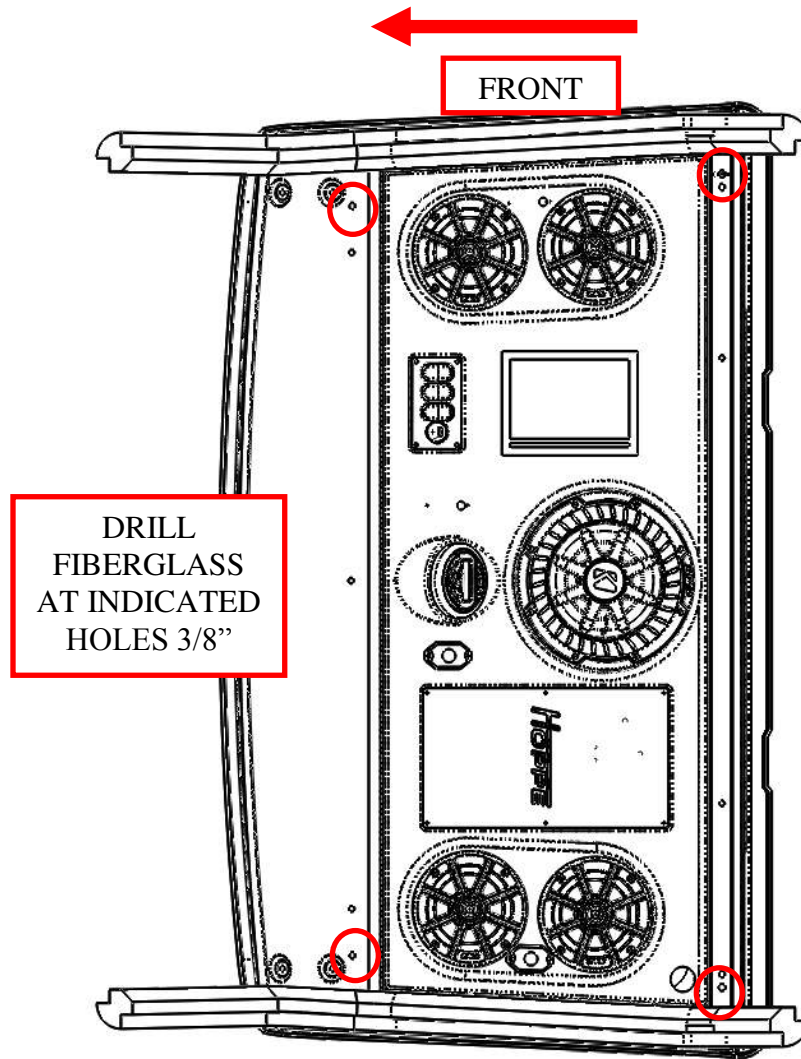

Figure 3: Install the top on the cage.
2. Using a few assistants, set the *Audio Shade* off-road top on the cage. The top is contoured such that the cage fits inside the grooves on the top. **Note: The top weighs up to 100 lbs. depending on your configuration. Since you will have to lift and reach, it is helpful to have up to 4 people for this step.** See Figure 3.
4. The top is mounted using the indicated holes in the factory cage. See Figure 3. Be sure the top is fully seated on the cage and in its final position. Drill a 3/8" hole through the fiberglass using the cage as a template at each location.